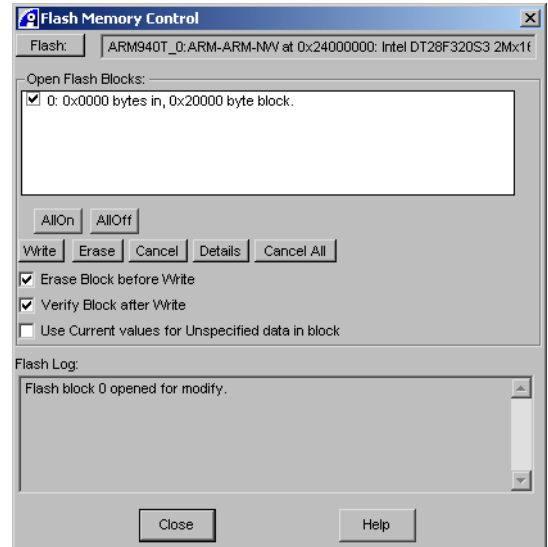

Figure 4-2 The Flash Memory Control dialog box
- 5. Click **Open** in the Load File to Target dialog box. The Flash Memory Control dialog box appears, shown in Figure 4-2 on page 4-15. RealView Debugger queues the image in preparation for writing to Flash.